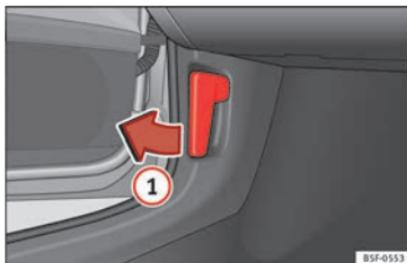

Fig. 8 See Fig. 3 for positioning
- Opening the bonnet: Pull the lever under the dashboard » Fig. 8 ①.